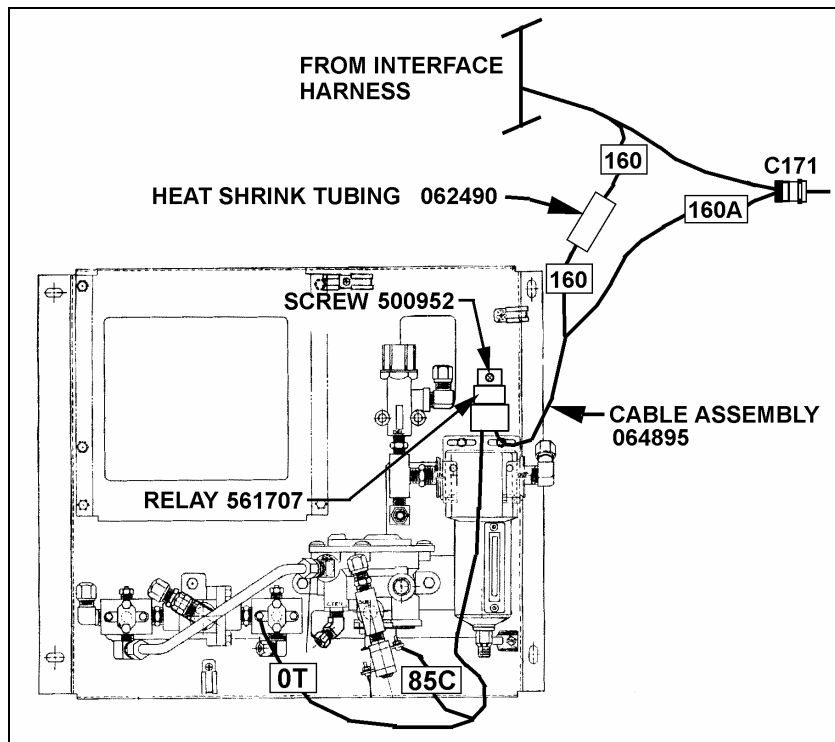

FIGURE 3 : ROUTING OF CABLE ASSEMBLY 064895
4. Open front service and front electrical compartment doors. In front service compartment, secure cable assembly (Prévost #064895) relay bracket over the accessories air filter using self tapping screw (Prévost #500952) (refer to figure 3). Connect 85C and 0T wires as per figure 3 and install relay (Prévost #561707) onto its support bracket.